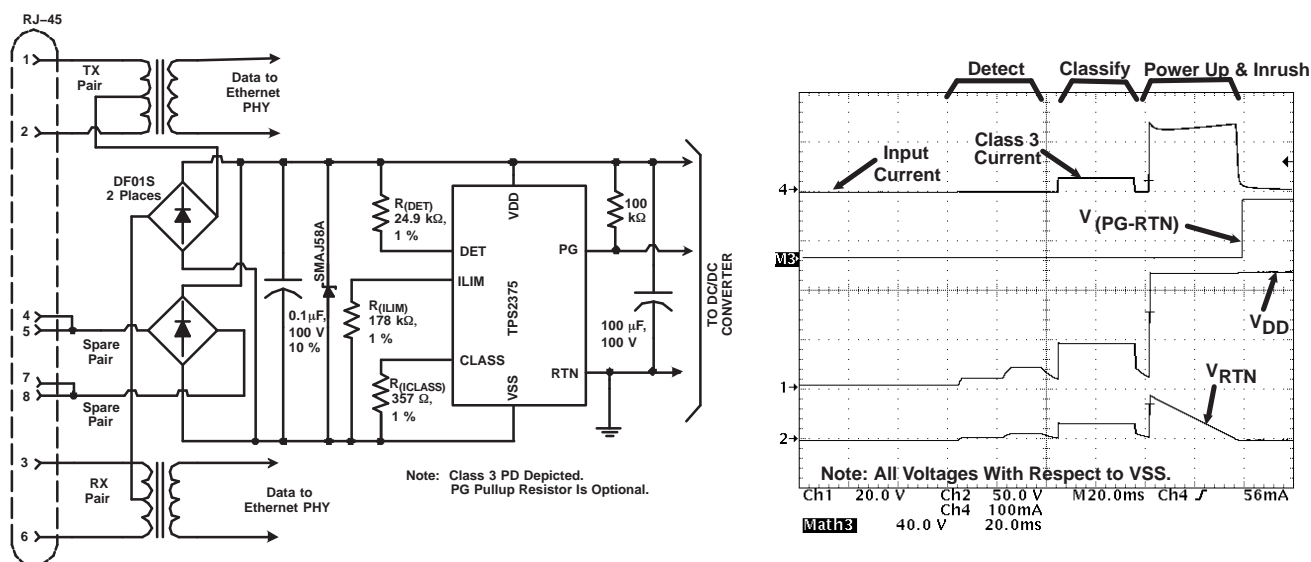

Figure 1. Typical Application Circuit and Startup Waveforms
(1) Stresses beyond those listed under “absolute maximum ratings” may cause permanent damage to the device. These are stress ratings only, and functional operation of the device at these or any other conditions beyond those indicated under “recommended operating conditions” is not implied. Exposure to absolute–maximum–rated conditions for extended periods may affect device reliability.
(2) I(RTN) = 0
(3) SOA limited to V(RTN) = 80 V and I(RTN) = 515 mA.
(4) Surges applied to RJ-45 of Figure 1 between pins of RJ-45, and between pins and output voltage rails per EN61000-4-2, 1999.